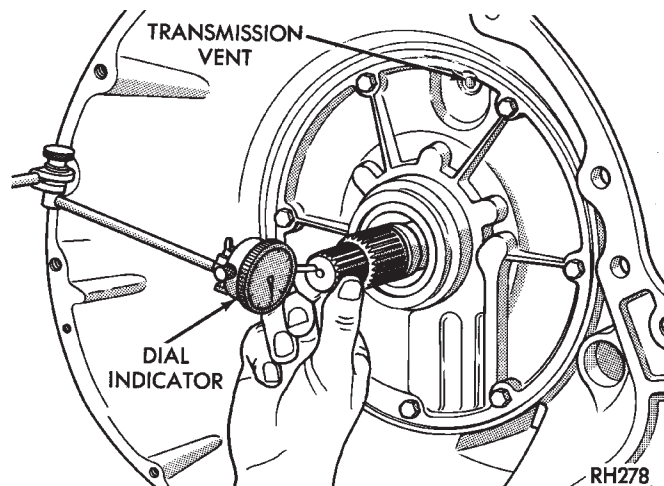

Fig. 123 Measuring Input Shaft End Play
(29) Measure and if necessary, correct input shaft end play as follows (Fig. 123):